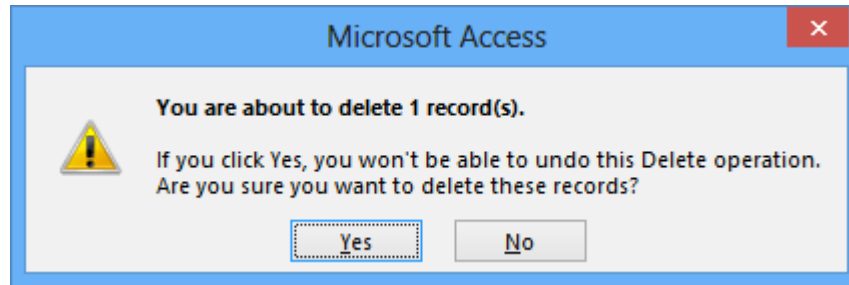

Figure 28: Delete Record Window
- A dialog box appears asking if you really want to delete the record (Figure 28). Click **Yes** to delete the record.